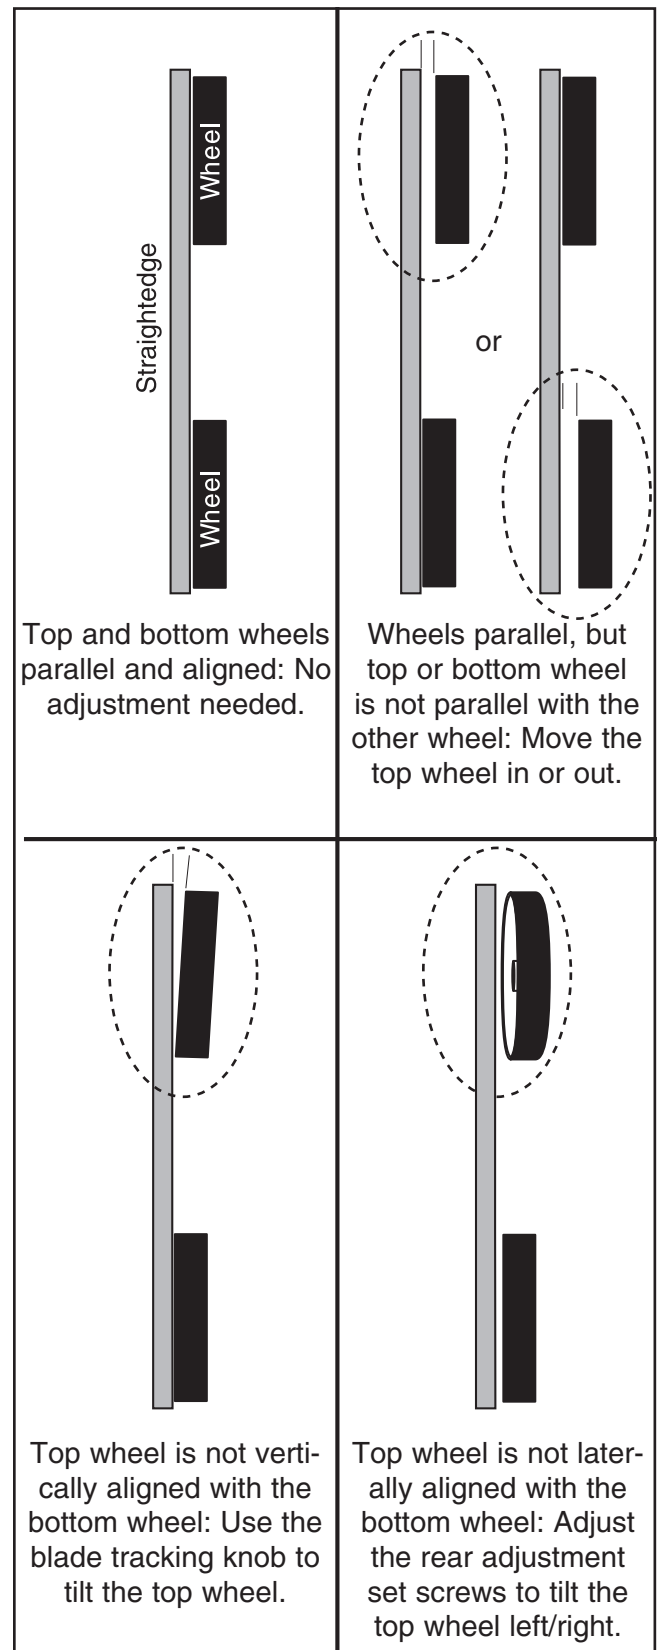

Figure 60. Wheel alignment illustration.
4. Referring to **Figure 60**, check wheel alignment.